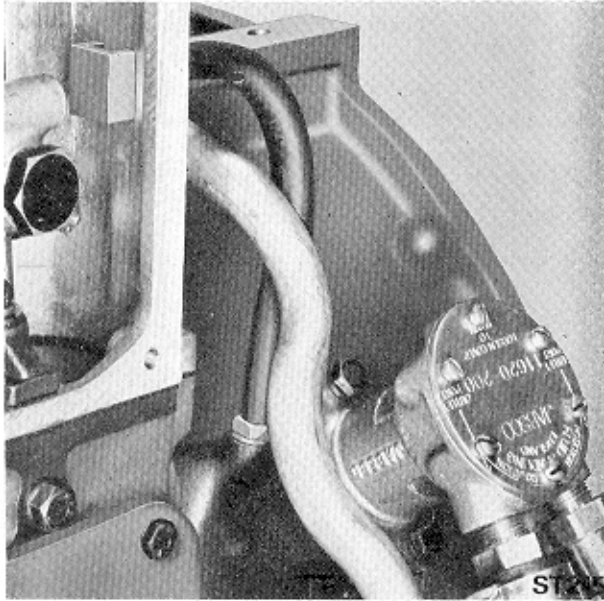

Fig. 14. Oil Feed to Jabsco Pump
**OIL FEED TO JABSCO PUMP (Fig. 14)**